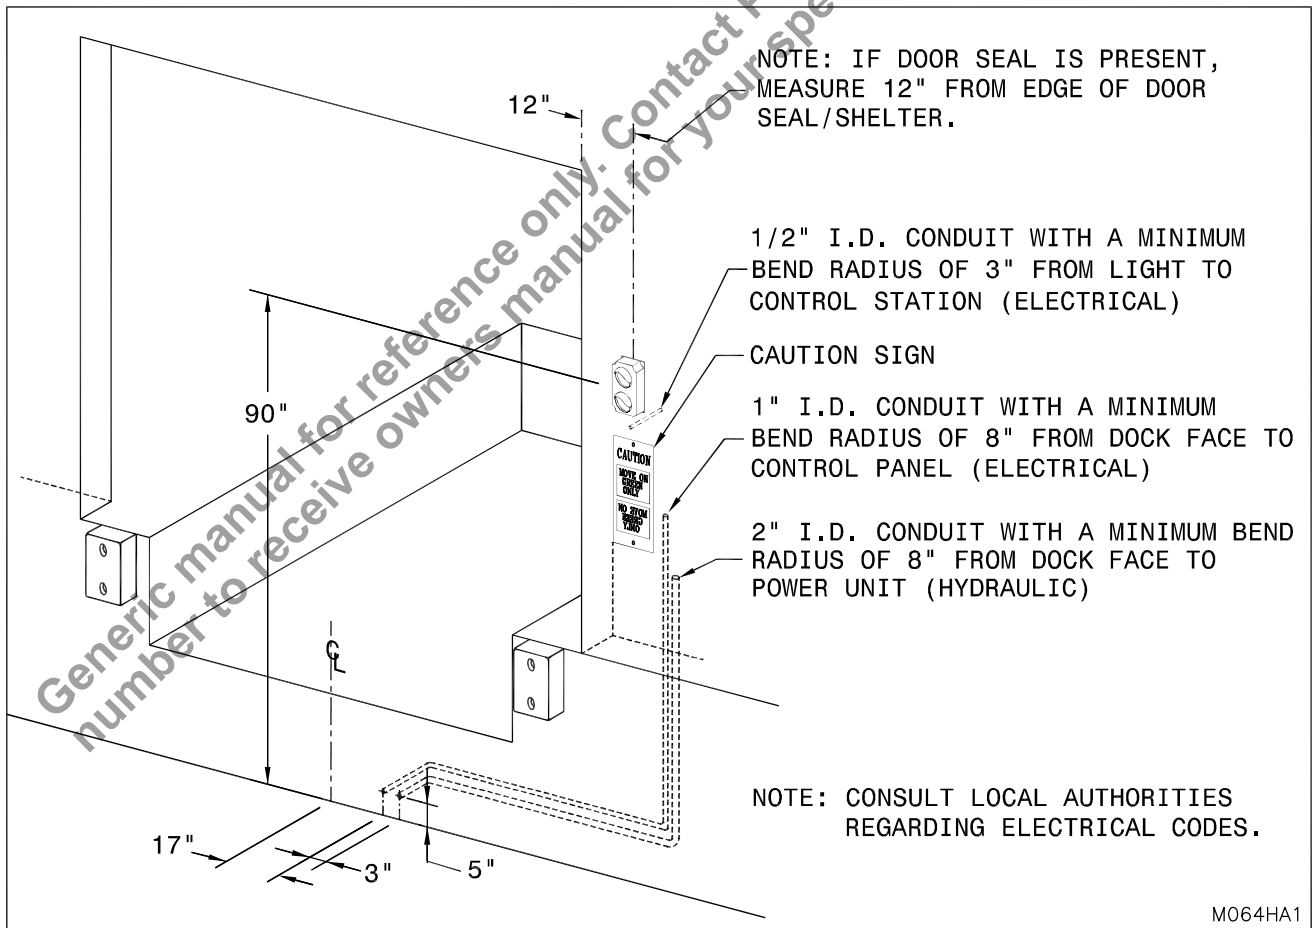

Figure 24: Conduit / Sign Locations
4. ___ Mount the outside light approximately 90” high from the center of the light to the finished driveway level (See “Figure 24: Conduit / Sign Locations” on page 26).